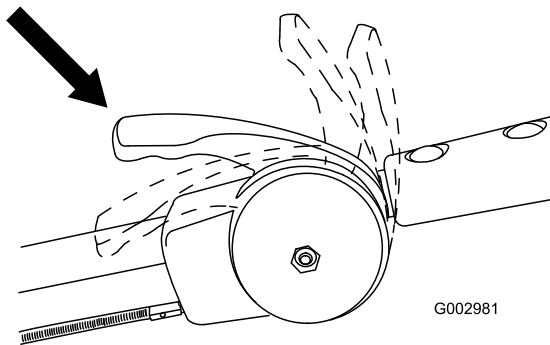

Figure 23
5. When the engine starts, move the throttle to the Fast position (Figure 23).